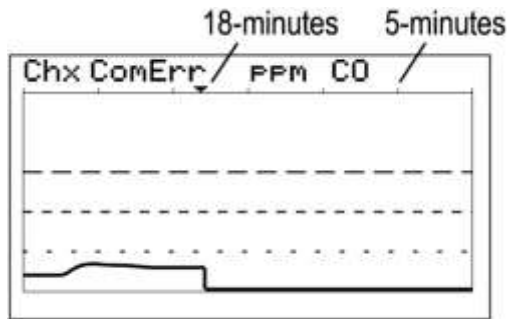

Figure 5.4
- **Communications Error** – Each channel's 30-minute trend screens (Figure 5.4) are very useful for diagnosing wireless problems, since they indicate amount of time since the most recent transmission was received. The down arrow on top of the trend screen resets to far right each time a transmission is received by that channel. When not in alarm, wireless OLCT 200's transmit each 5 minutes, so the arrow should never progress past the 5-minute interval. The WX4 activates the channel's FAULT alarm and indicates *ComErr* if no transmission has been received in 18 consecutive minutes.